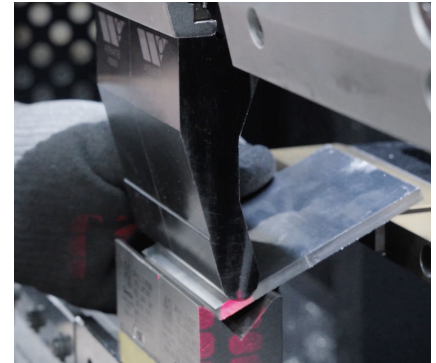

Figure 1.2
- SendCutSend automatically checks this during the quoting process. If your flange is too short, you'll see a warning that the part cannot maintain the required three-point contact (see Figure 1.2).